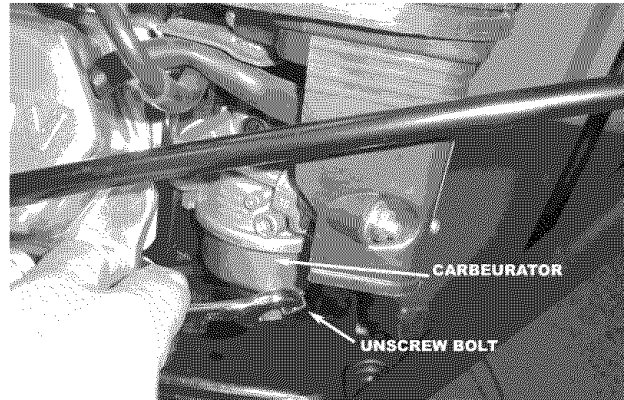

Figure 22- Draining gas from the carburetor
4. Unscrew the outward facing bolt from the bottom of the carburetor (see figure 22). Gas should start to empty from this point.